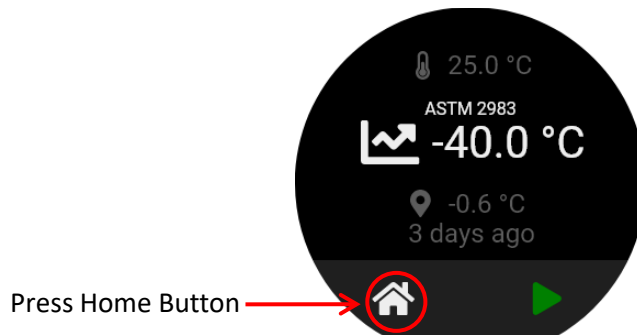

Figure 41: Choose Home Button
1. On the Base Unit, press the **Home** button to open main menu screen. See Figure 41.